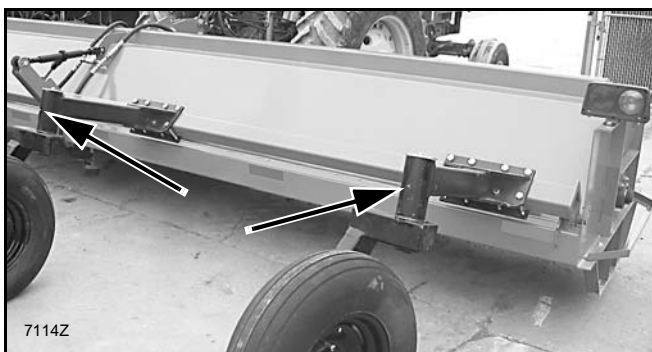

Figure 26. Wheel Rockshaft Bearing Lubrication Points
3. Lubricate wheel rockshaft bearings (3 to 5 locations). See Figure 26.